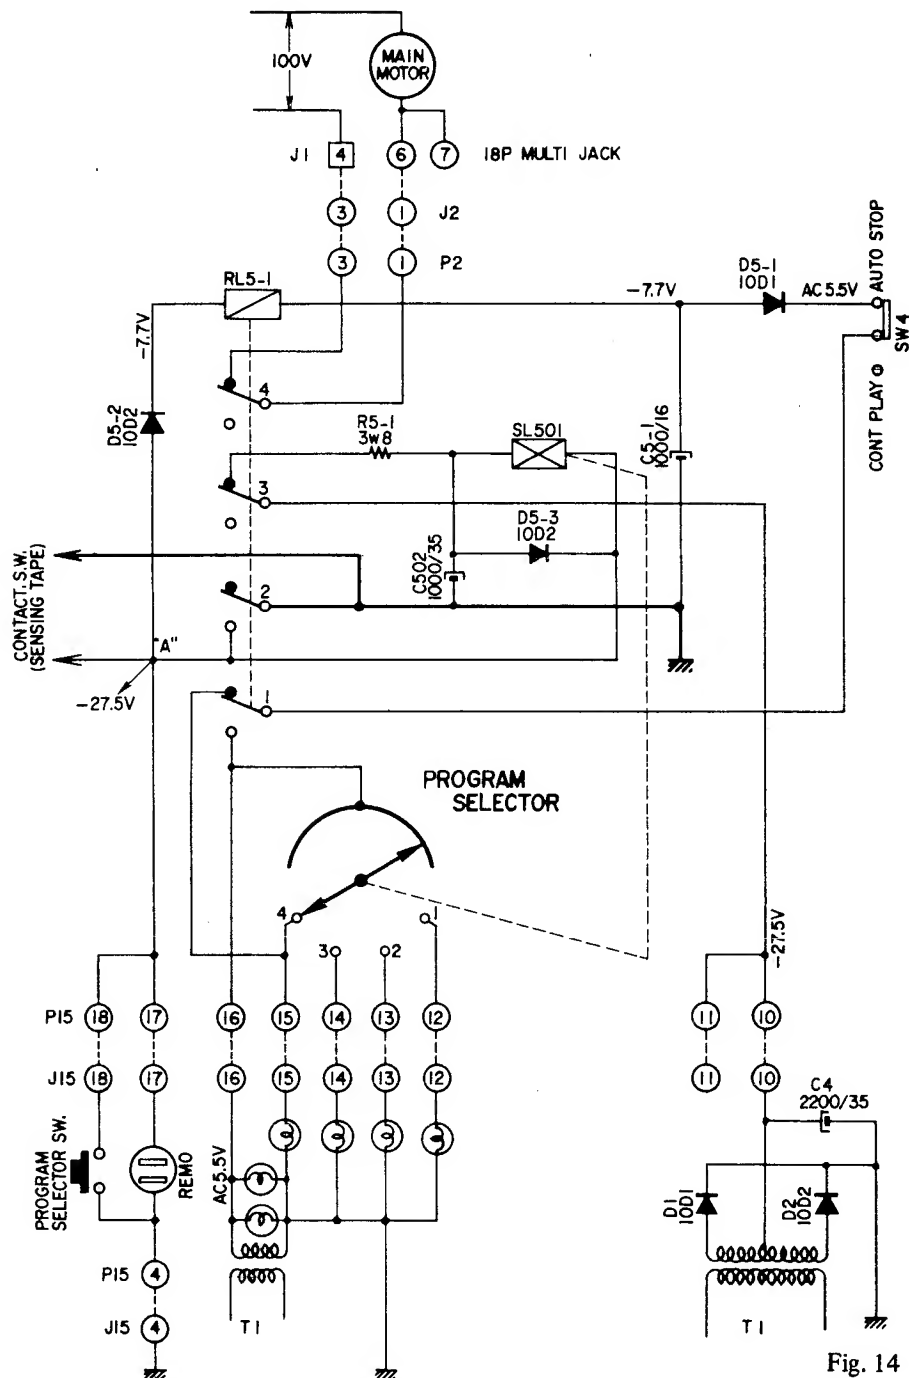

Fig. 14
8. CARTRIDGE AUTOMATIC STOP OPERATING PRINCIPLES (See Fig. 14)
When Cartridge Auto Stop/Cont. Play Switch (SW-4) is set to "Auto Stop", when the Program Selector comes to Program "4" position, the voltage passes through Program Selector and Relay (RL5-1) (1) and voltage is applied to D5-1 and RL5-1 as shown in Fig. 14, point "A" is grounded by the Program Selector or Sensing Tape, RL5-1 is activated, and the motor stops. At the same time, Solenoid Coil SL5-1 is also activated and Program Selector is returned to Program 1 position. Relay RL-1 is held by the voltage supply from P15 (16) Multi-Jack which passes RL-1.